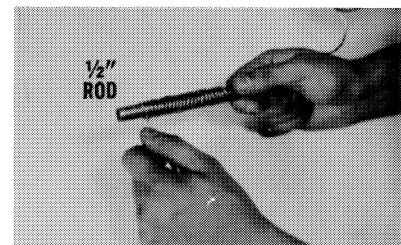

Figure 4
- B. Do not kink capillary tube. The resulting constrictions in fluid flow can destroy control function or broaden temperature differential. Minimum capillary tube bending diameter is ½" I.D. (See Figure 4)